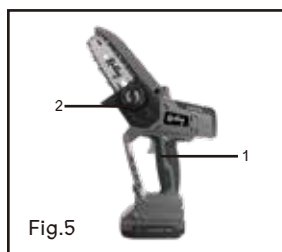

Fig.5
2. Release the trigger (1).
3. Rotate the knob on the chain plate counterclockwise, and then loosen the saw chain(2) (Fig.5).